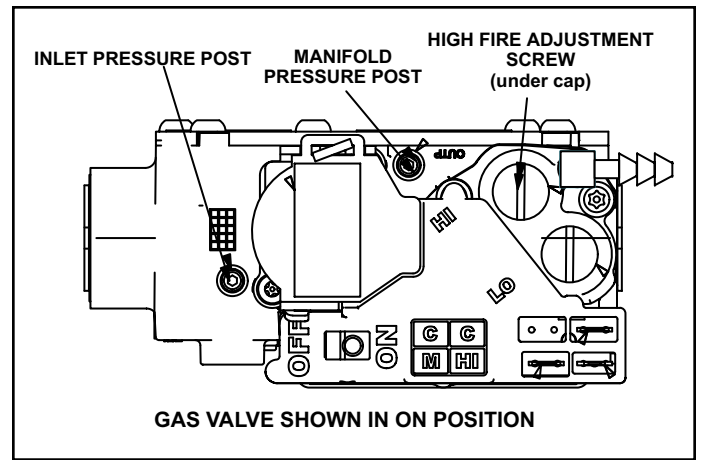

Figure 14. Gas Valve
The valve (Figure 14) is internally redundant to assure safety shut-off. If the gas valve must be replaced, the same type valve must be used.
### Gas Valve Operation (Figure 14)
6. Move gas valve switch to OFF. See Figure 14.
8. Move gas valve switch to ON. See Figure 14.
1. Connect test gauge to manifold pressure post (Figure 14) on gas valve.
4. If necessary, make adjustments. Figure 14 shows location of high fire and low fire adjustment screw.